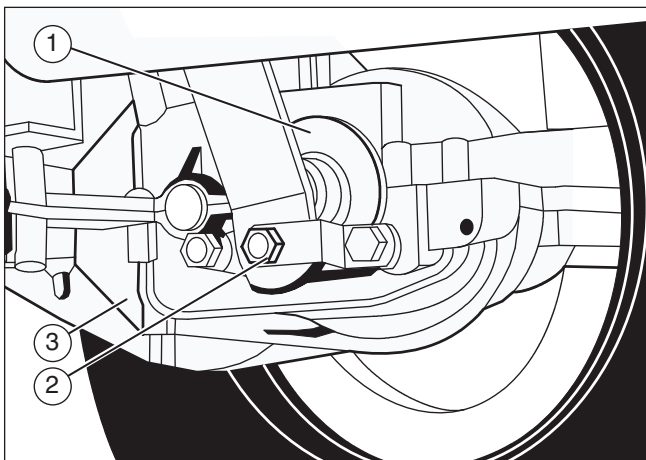

Figure 28
1. The location of the drive brake (1) is on the right side of the gearbox (3) (see **Figure 28**).
2. Make sure the parking brake is set and the shift lever is in neutral (N). Turn the hex nut (2) in a clockwise direction until the rear wheels do not turn when the unit is pushed forward.